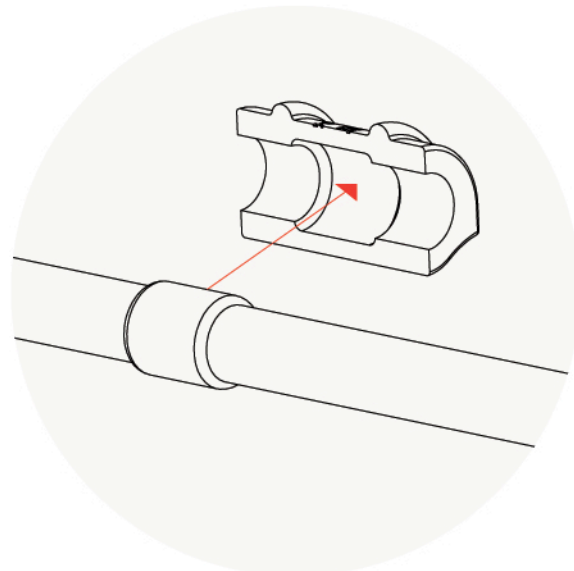

Figure 1 - shows the positioning of part A polyurethane bush to the roll bar where the red arrow shows the correct line up up of the two parts
3. Gently pry open the part A polyurethane bush and mount over the roll bar, where the groove is placed. Make sure the groove feature inside the bore of the polyurethane bush lines up with the groove on the roll bar (this restricts any horizontal movement), as shown in Figure 1.